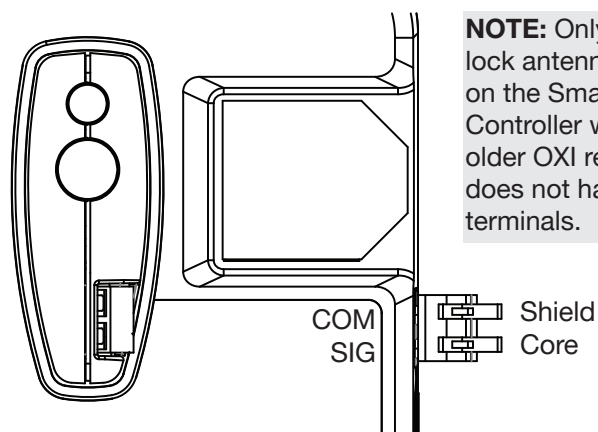

Figure 29. OXI Antenna Terminal
3. Install a coaxial antenna into the OXI receiver terminals for better range (Figure 29). Route the cable through a knock out in the electrical enclosure and conduit to a fixed fence post near the operator. Mount the external antenna on top of the fixed fence post.